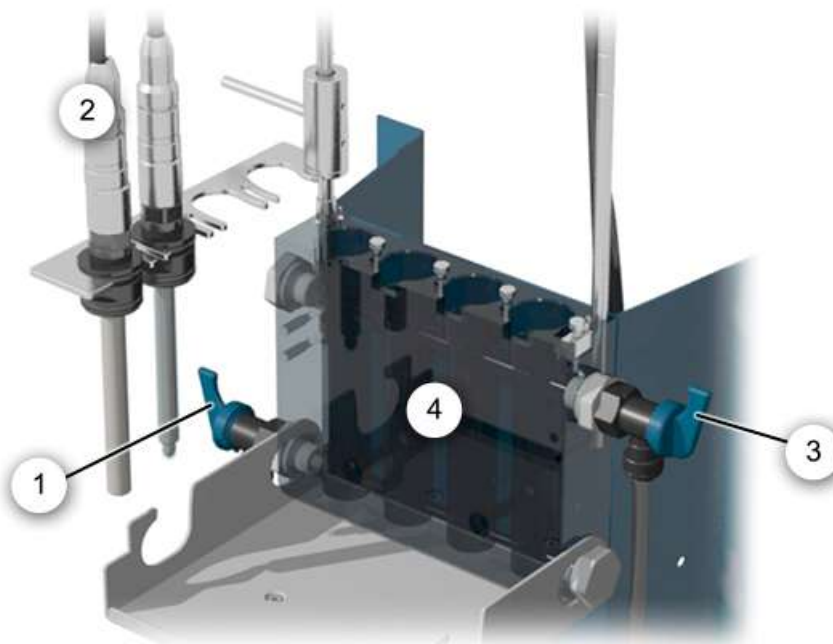

Figure 24: Instrument overview of AquaMaster
2.	<p>Remove all sensors from the measuring cell block and position in the locking device (Figure 24, pos. 2).</p> <hr/> <p>i Submerge pH sensor and Conductivity sensor in container with water to protect them from drying out. Do not use distilled water but rather clean tap water.</p> <hr/>
3.	Remove hose on the measuring cell block inlet flow regulator valve (Figure 24, pos. 1), open inlet regulator valve and let the measuring cell block drain into a container until empty.
5.	Remove the outlet hose from the outlet regulator valve (Figure 24, pos. 3) and rinse.
6.	Reattach the outlet hose on the outlet regulator valve (Figure 24, pos. 3).
7.	Clean measuring cell block (Figure 24, pos. 4) with bottle cleaner.
8.	<p>Reattach the hose on the inlet flow regulator valve (Figure 24, pos. 1).</p> <p>Also reattach the flow meter, if present.</p>